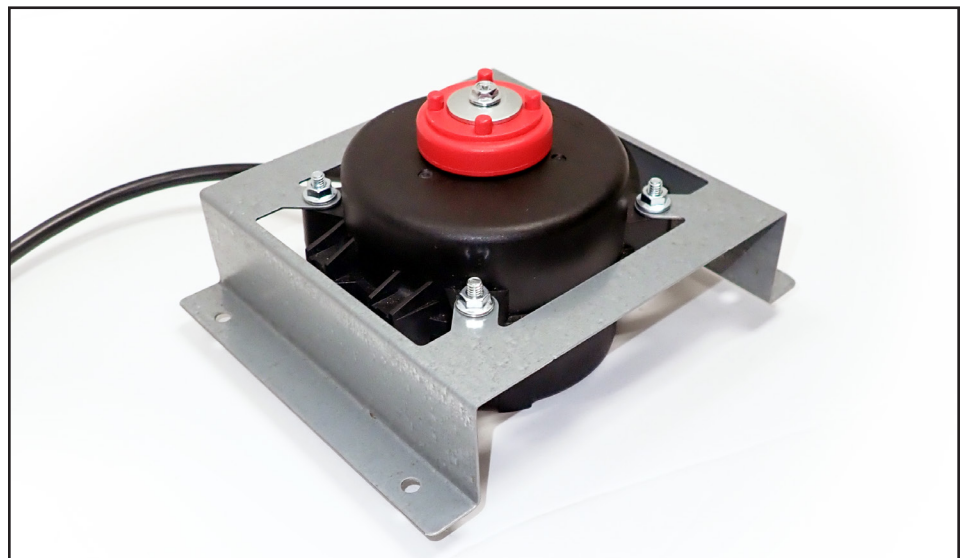

Fig. 8. Front-mount bracket installed on the replacement fan motor.
1. With the provided hardware, install the bracket onto the replacement fan motor. See fig. 8.